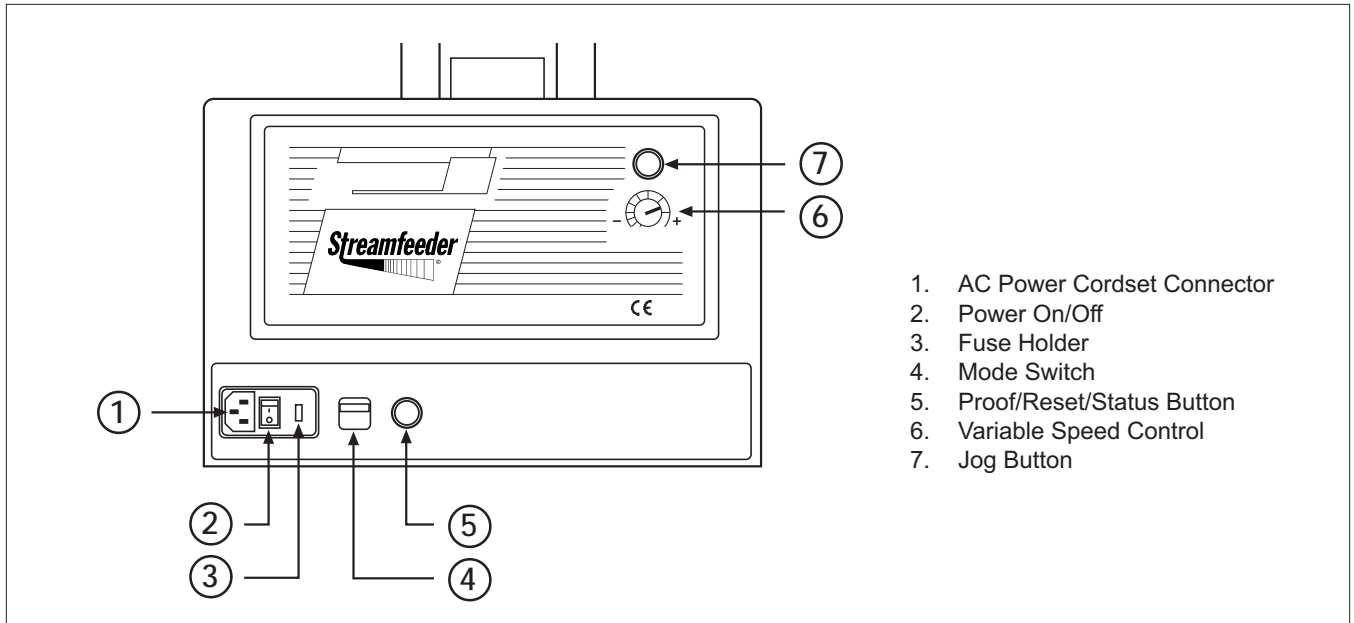

Figure 2. Control Panel Components
Review the *control panel components* in Figure 2 to become familiar with names and locations of specific connectors, switches, and controls. This will help to prepare you for installation and operation. Descriptions are found in Table 2.
④ Discharge safety shield	Provides residual risk protection to the operator when the feeder is running. A built-in interlock switch stops the feeder when it is opened.
⑤ Top roller hold-down assembly (adjustable)	A block of small bearings that are mounted on an adjustable shaft. The assembly gently forces the envelope onto the discharge belts. This process ensures that the position of the envelopes is maintained after it goes through the gate assembly. To maintain downward pressure, use the T-nuts to loosen the shaft and adjust the block in an upward or downward position.
⑥ Tension springs	Assures the envelope is maintained flush against the alignment rail.
⑦ Photo sensors	There are two sensors on the 270RT. The top sensor detects the trailing edge of the envelope and triggers the feeder to feed another piece. The bottom sensor detects the leading edge of the envelope and commands the feeder to stop when the piece is staged.
⑧ Transport belts	Combined with the top roller hold-down assembly, provide the friction and motion necessary to pull envelopes away from the gate assembly area. Transport belts operate faster than drive belts, speeding up envelopes for proper registration at the alignment rail.
⑨ Alignment rail	Keeps the envelope straight as it moves across the alignment table.
⑩ Adjustable backstop ramps	Keeps the envelopes from bouncing backward when they contact the alignment table stop. Locate the adjustments on the side of the alignment table.
⑪ Feed belts	Provide the friction and motion necessary to pull individual envelopes from the bottom of the stack and through the gate assembly area.
⑫ Table top	Used to support the back wedge.
⑬ Adjustable back wedge	Lifts the envelopes to keep them off the table top, reduces excessive contact with the feed belts, and helps push the envelopes against the curvature of the gate assembly. For proper lift, adjustment wingnuts and locking levers allow sliding the wedge to various positions and angles.
⑭ Control panel (not shown)	Contains buttons for speed control, Jog function, reset function, mode selection, and AC power. For descriptions, see Figure 2 and Table 2.